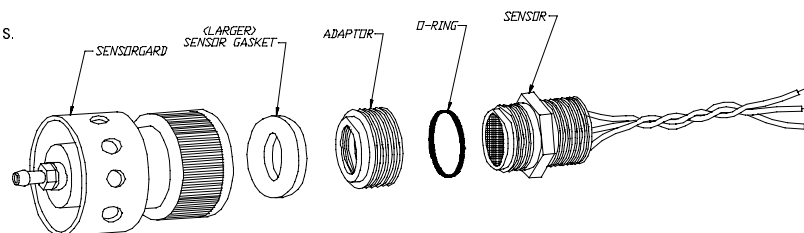

Figure 7. Ultima Gas Model Using SensorGard
- Use larger rubber sensor gasket and the o-ring from this kit (see FIGURE 7)